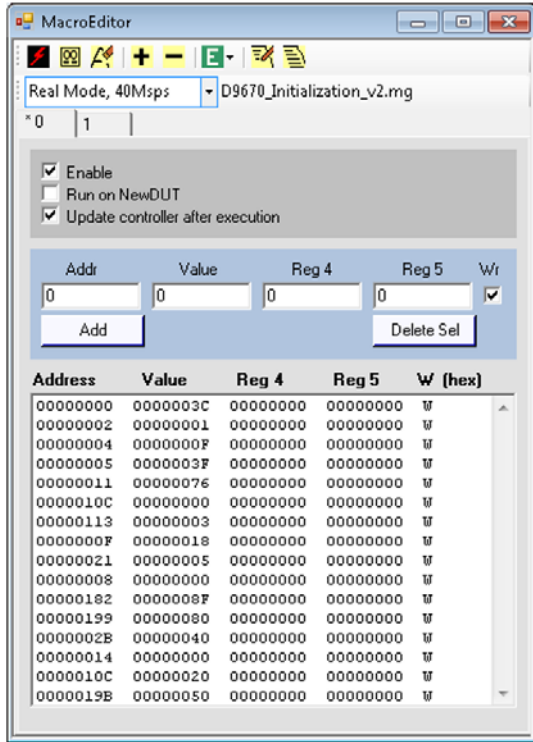

Figure 4. MacroEditor Window and D9670_Initialization_v2.mg Dropdown Box
6. In the main SPIController window, open the **File** menu and click **Open Macrogroup**. Select the AD9670_Initialization.mgp macro file to open the **MacroEditor** window shown in Figure 4. The macro file is an **.XML** file that lists the serial peripheral interface (SPI) command macros in the D6970_Initializaion_v2.mg dropdown box (see Figure 4). Each command macro includes SPI writes that configure the AD9670 for specific operating modes. The **MacroEditor** conducts a batch write of SPI registers to set up the AD9670. The macro file contains the following two macros: **Real Mode, 40Msps** and **IQ Mode, 40Msps**. It is possible to add unique configuration macros to the **.XML** macro file and load the macros into the **MacroEditor** window.
- To enable the demodulator and decimator, select and run the **IQ Mode, 40Mpsps macro** in the **MacroEditor** window (see Figure 4).